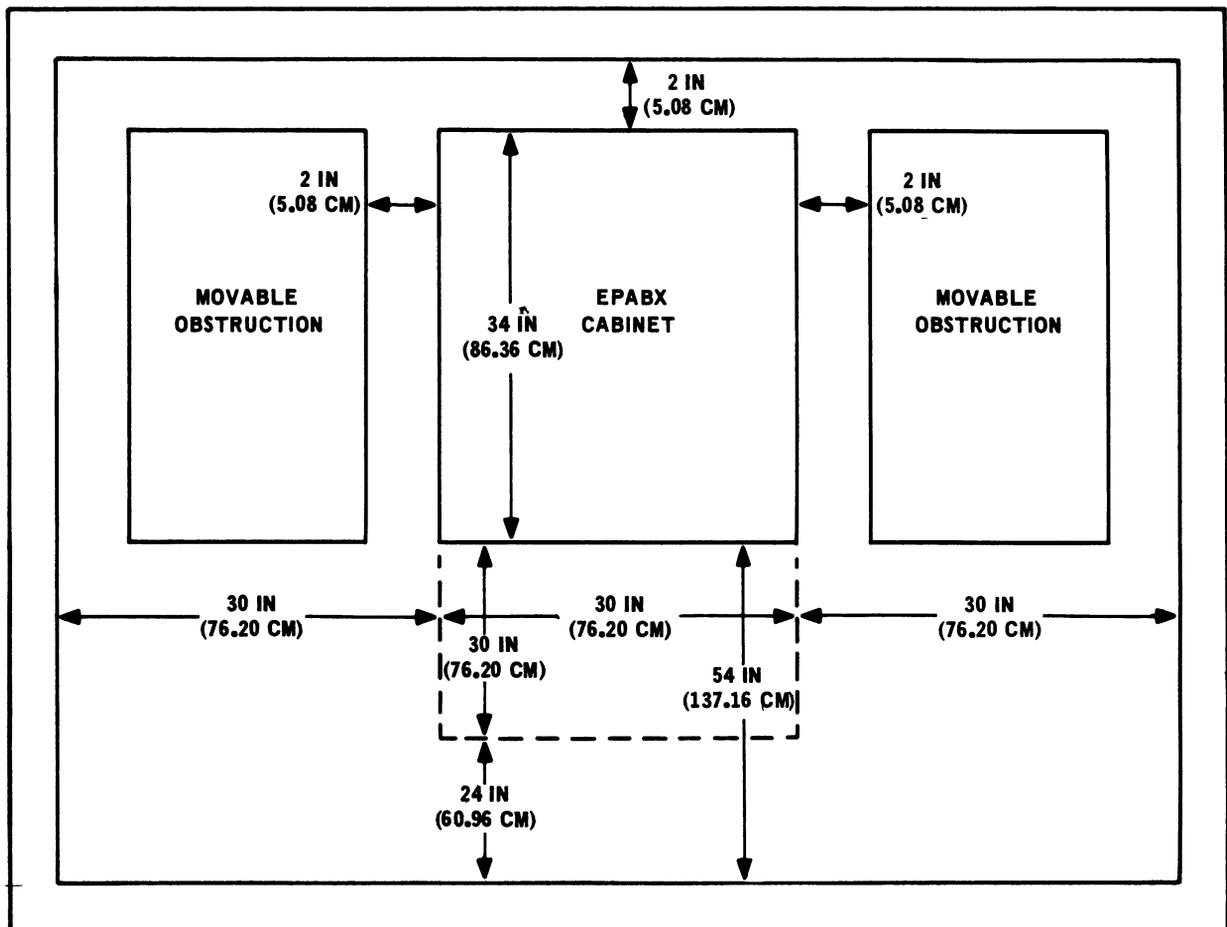

Fig. 14 – EPABX Floor Space Requirement
4.01 The minimum floor and maintenance space required for the EPABX is shown in Fig. 14.